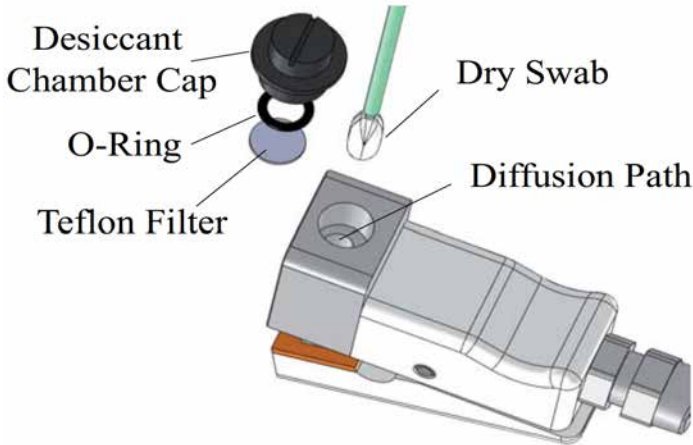

Figure 16: Desiccant Chamber Assembly
1. Remove the desiccant chamber. (Figure 16)